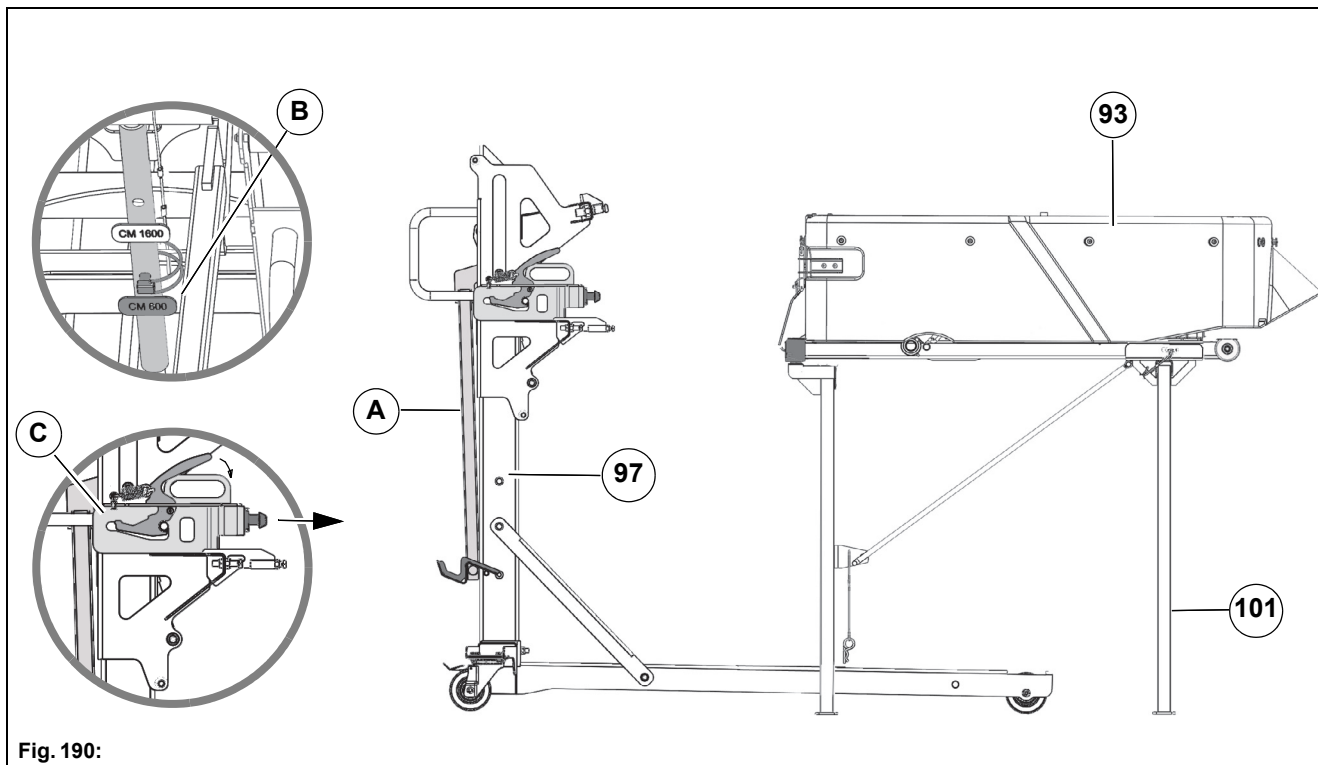

Fig. 190:
2. Unlock the lever **Fig. 190-A** of the trolley **Fig. 190-97** and swing it into the upper position.
3. Hold the lever **Fig. 190-A** in the upper position with one hand. With your other hand plug the mounting bolt **Fig. 190-B** on the Citymaster 650.
Risk of injury! The lever **Fig. 190-A** can swing over.
4. Unlock the sledge **Fig. 190-C** with the lever and push it into the front position.